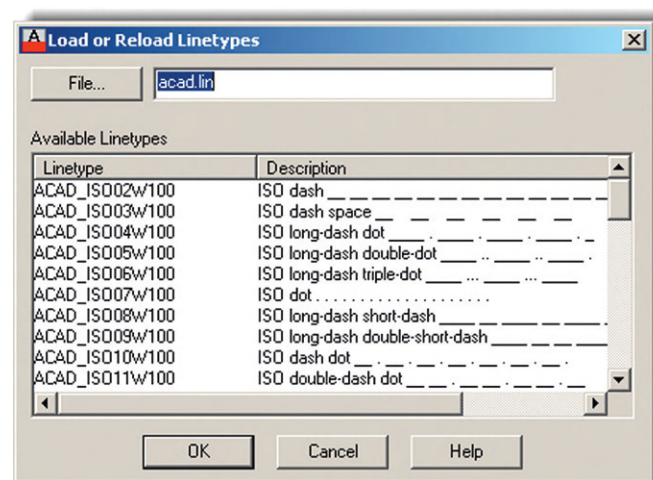

FIGURE 3.8
- Step 2.** Press Load... The Load or Reload Linetypes box comes up (Figure 3.8).